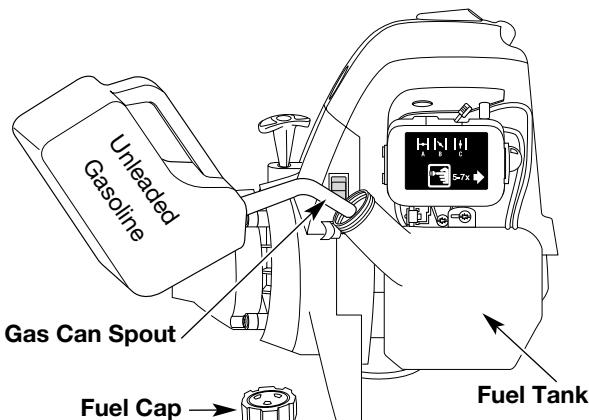

Fig. 7
1. Remove fuel cap (Fig. 7).
2. Place spout of gas container into the fill hole on the fuel tank (Fig. 7) and fill tank.